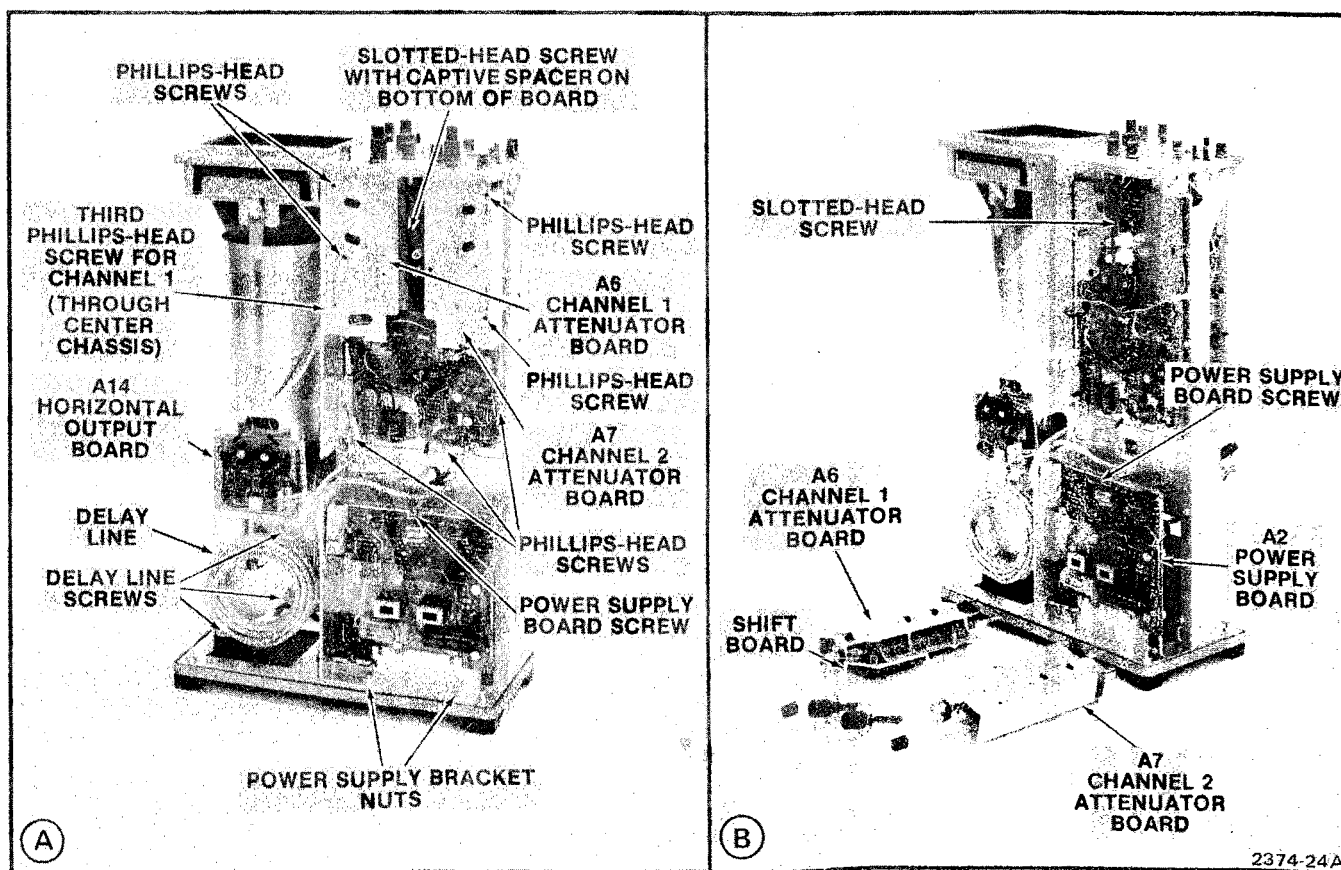

Figure 5-8. Attenuators, Attenuator Shift, Horizontal Output, and Power Supply assembly removal.
The following procedure is valid for removing the attenuator assembly for either channel. Place the instrument in the position shown in Figure 5-8 (temporarily reassemble the rear cabinet frame and four feet to the rear panel with the Phillips-head foot securing screws to support the 442).
The Channel 1 attenuator assembly employs an A5 Shift board to offset its connectors to the location where the connections are made to the Vertical board. After the Channel 1 attenuator assembly is removed from the Vertical board, the Shift board may be removed from the attenuator assembly by removing one Phillips-head screw (see Figure 5-8).
4. Remove the four screws that secure the Vertical board to the 442 chassis. (Refer to Figure 5-8 for location of screws and board assemblies.)
1. Remove two nuts from the bolts that secure the power supply support bracket to the rear sub-panel. Remove the Phillips-head screw from the edge of the board toward the front of the 442 (see Figure 5-8 for location of these items).
1. Disconnect single-wire connectors P2334 and P2344 from the board pins and multi-pin connector P2332 from its board pins (see Figure 5-8).
1. Remove the three Phillips-head screws that secure the Delay Line tie-down straps to the rear crt bracket (see Figure 5-8).
9. Remove the three screws that secure the delay line tie-down straps to the rear crt bracket (see Figure 5-8). Lay the delay line so it will clear the crt shield.